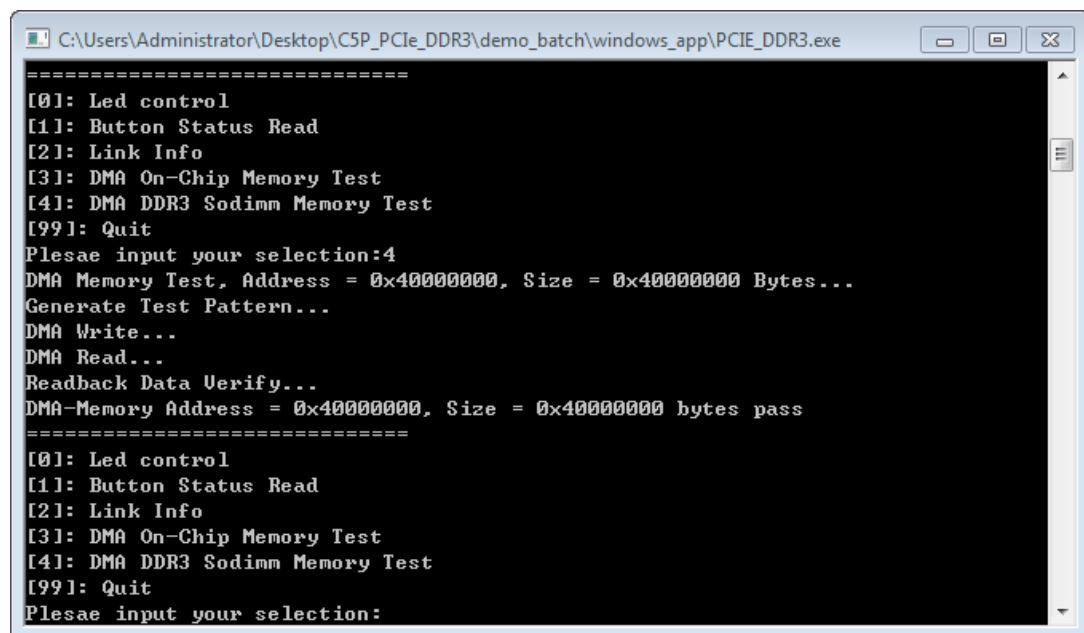

Figure 7-18 Screenshot of DDR3 Memory DAM Test Result
8. Type 4 followed by the ENTER key to select the DMA DDR3 Memory Test item. The DMA write and read test result will be reported as shown in Figure 7-18.